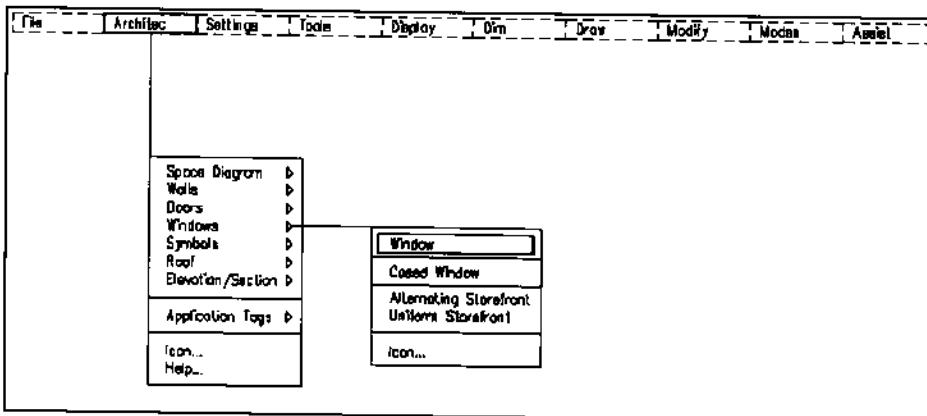
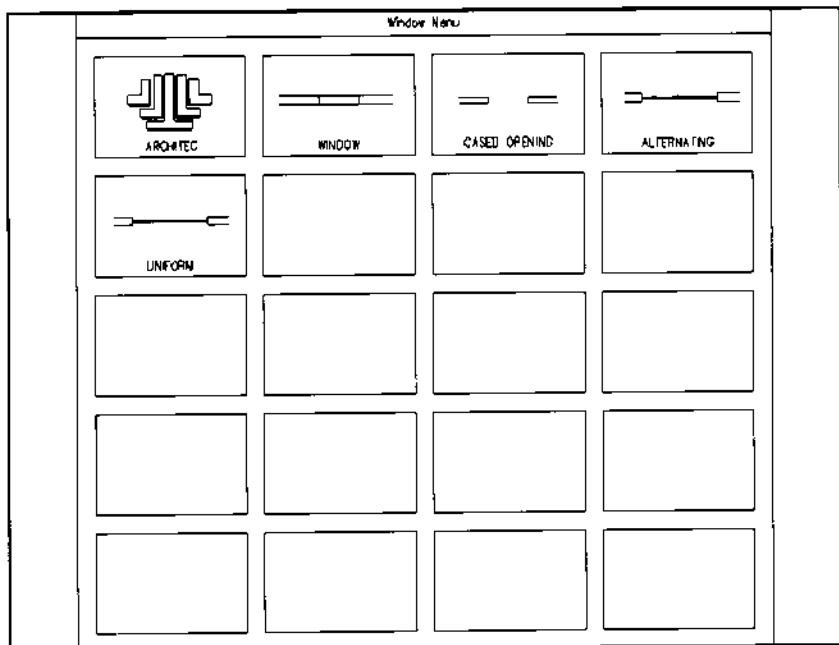

Figure 20.
Figure 21.
1. Insert a window from the Architec/Windows pull-down as shown in Figure 20, or icon Window Menu shown in Figure 21, at the midpoint of the interior wall line in OFFICE-2A.